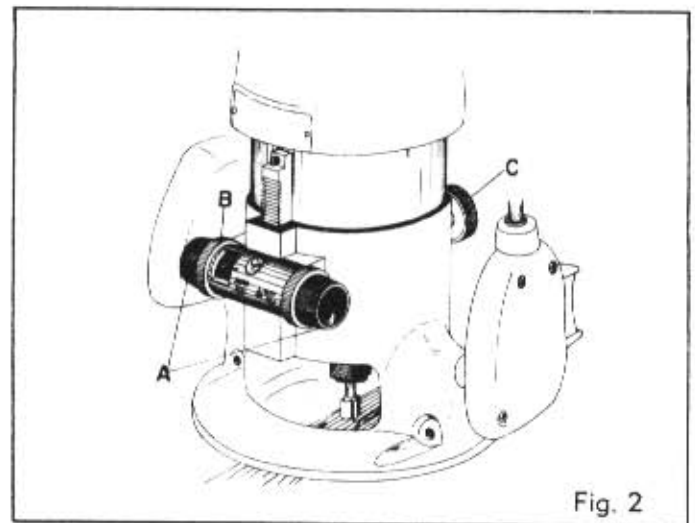

Fig. 2
1. Place the router on a flat surface and loosen the lock knob (C). See figure 2.
2. Turn the height adjusting knob (A) until tip of router bit touches surface.
3. Adjust the indicator knob (B) to "0".